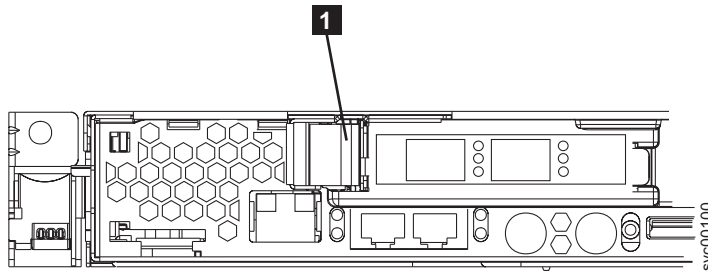

Figure 187. SAN Volume Controller 2145-8F2 or SAN Volume Controller 2145-8F4 PCI slot 1 card retainer
1. Install the fibre-channel card in slot 1, which is shown in Figure 187 on page 202.